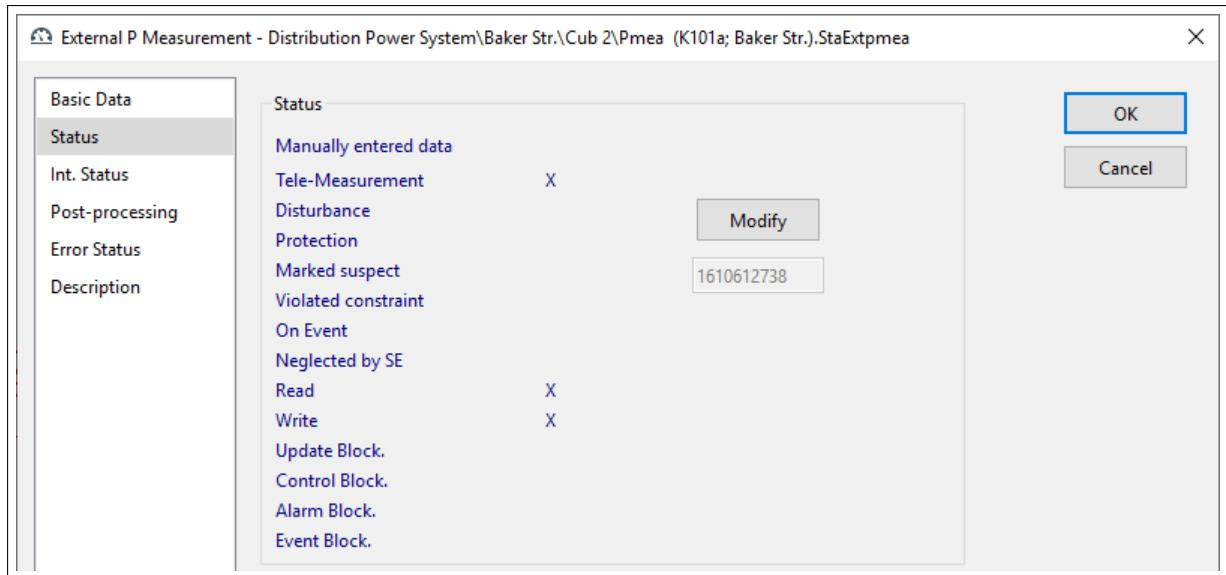

Figure 50.4.3: Status page of the dialog for an external P-measurement
- Input status (to be found on the second page of the edit object, see Figure 50.4.3):